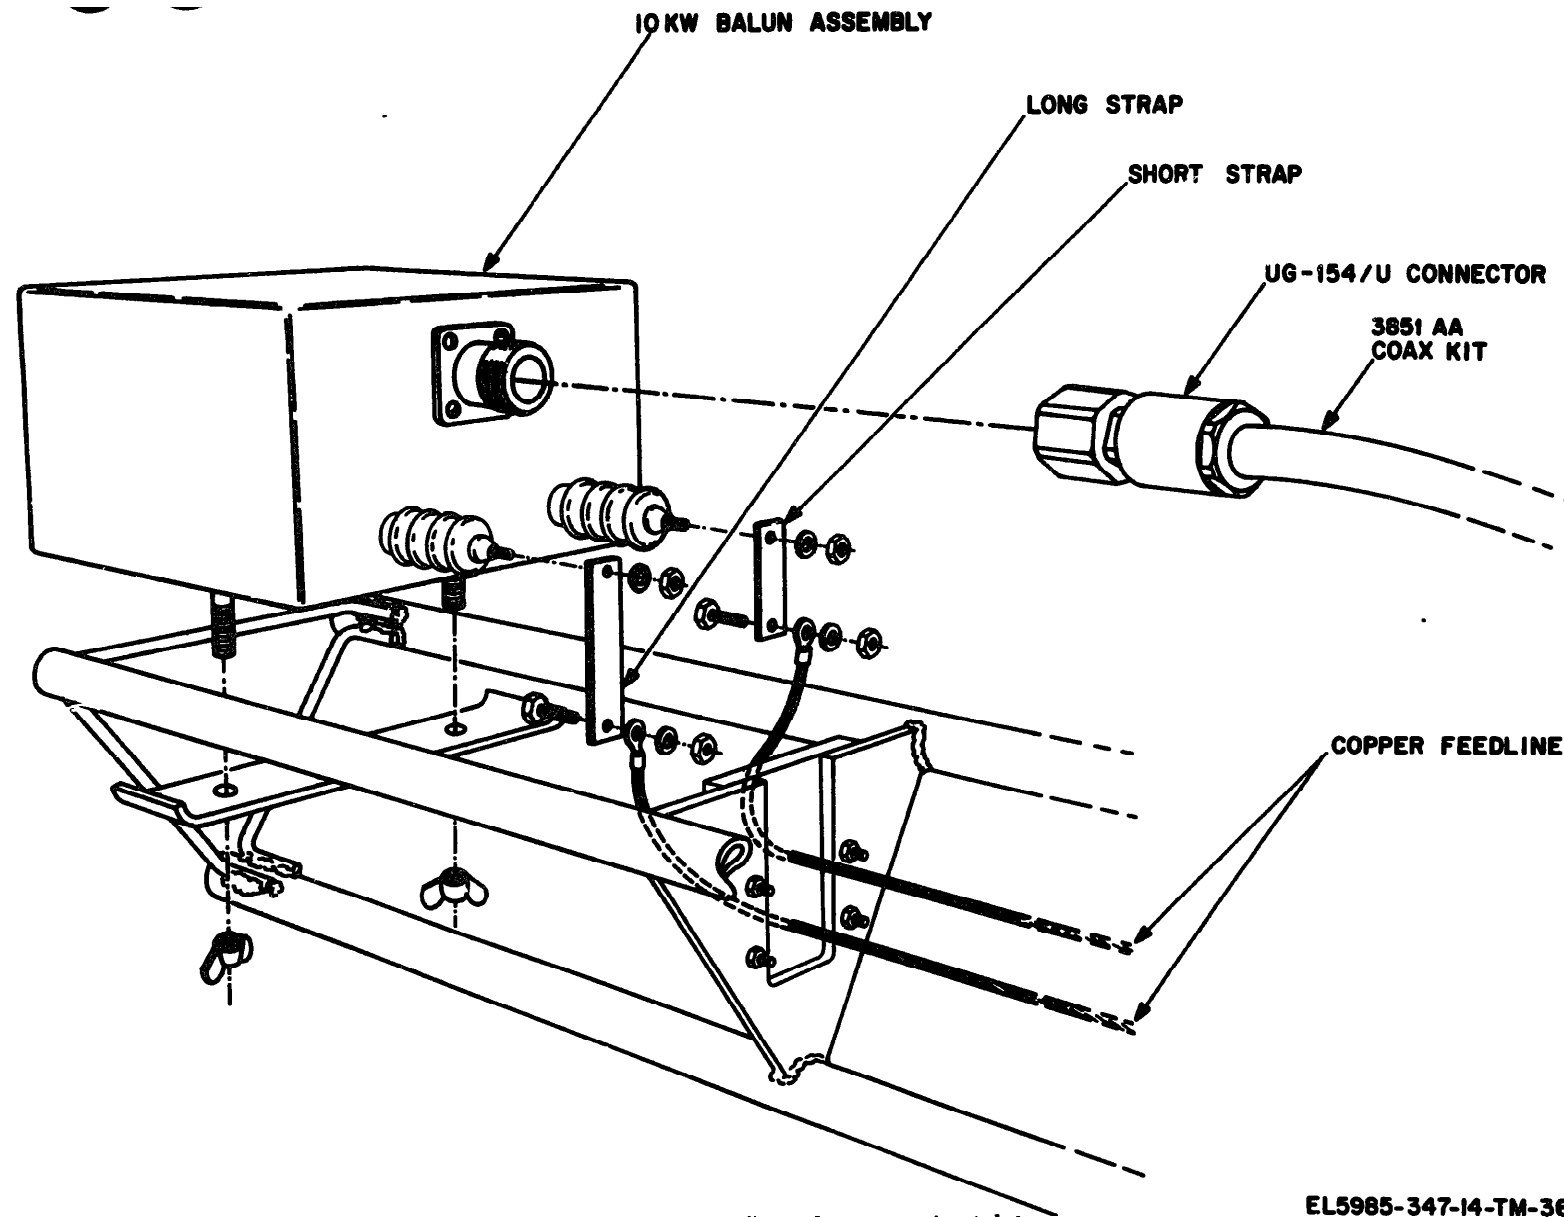

Figure 2-37. Feedline and coax connections to balun.
t. Figure 2-45 identifies the 3851AA antenna coax kit. The coax connects directly to the 50 ohm coaxial input connector (Type LC) on the balun as shown in figures 2-37 and 2-45.